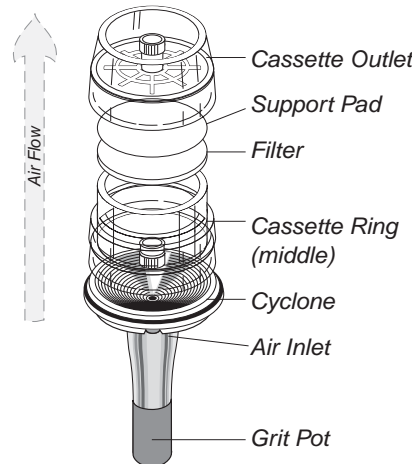

Figure 1
- Select a filter and support pad as specified in the sampling method. Insert cassette ring (middle) section into cassette outlet (see Figure 1).